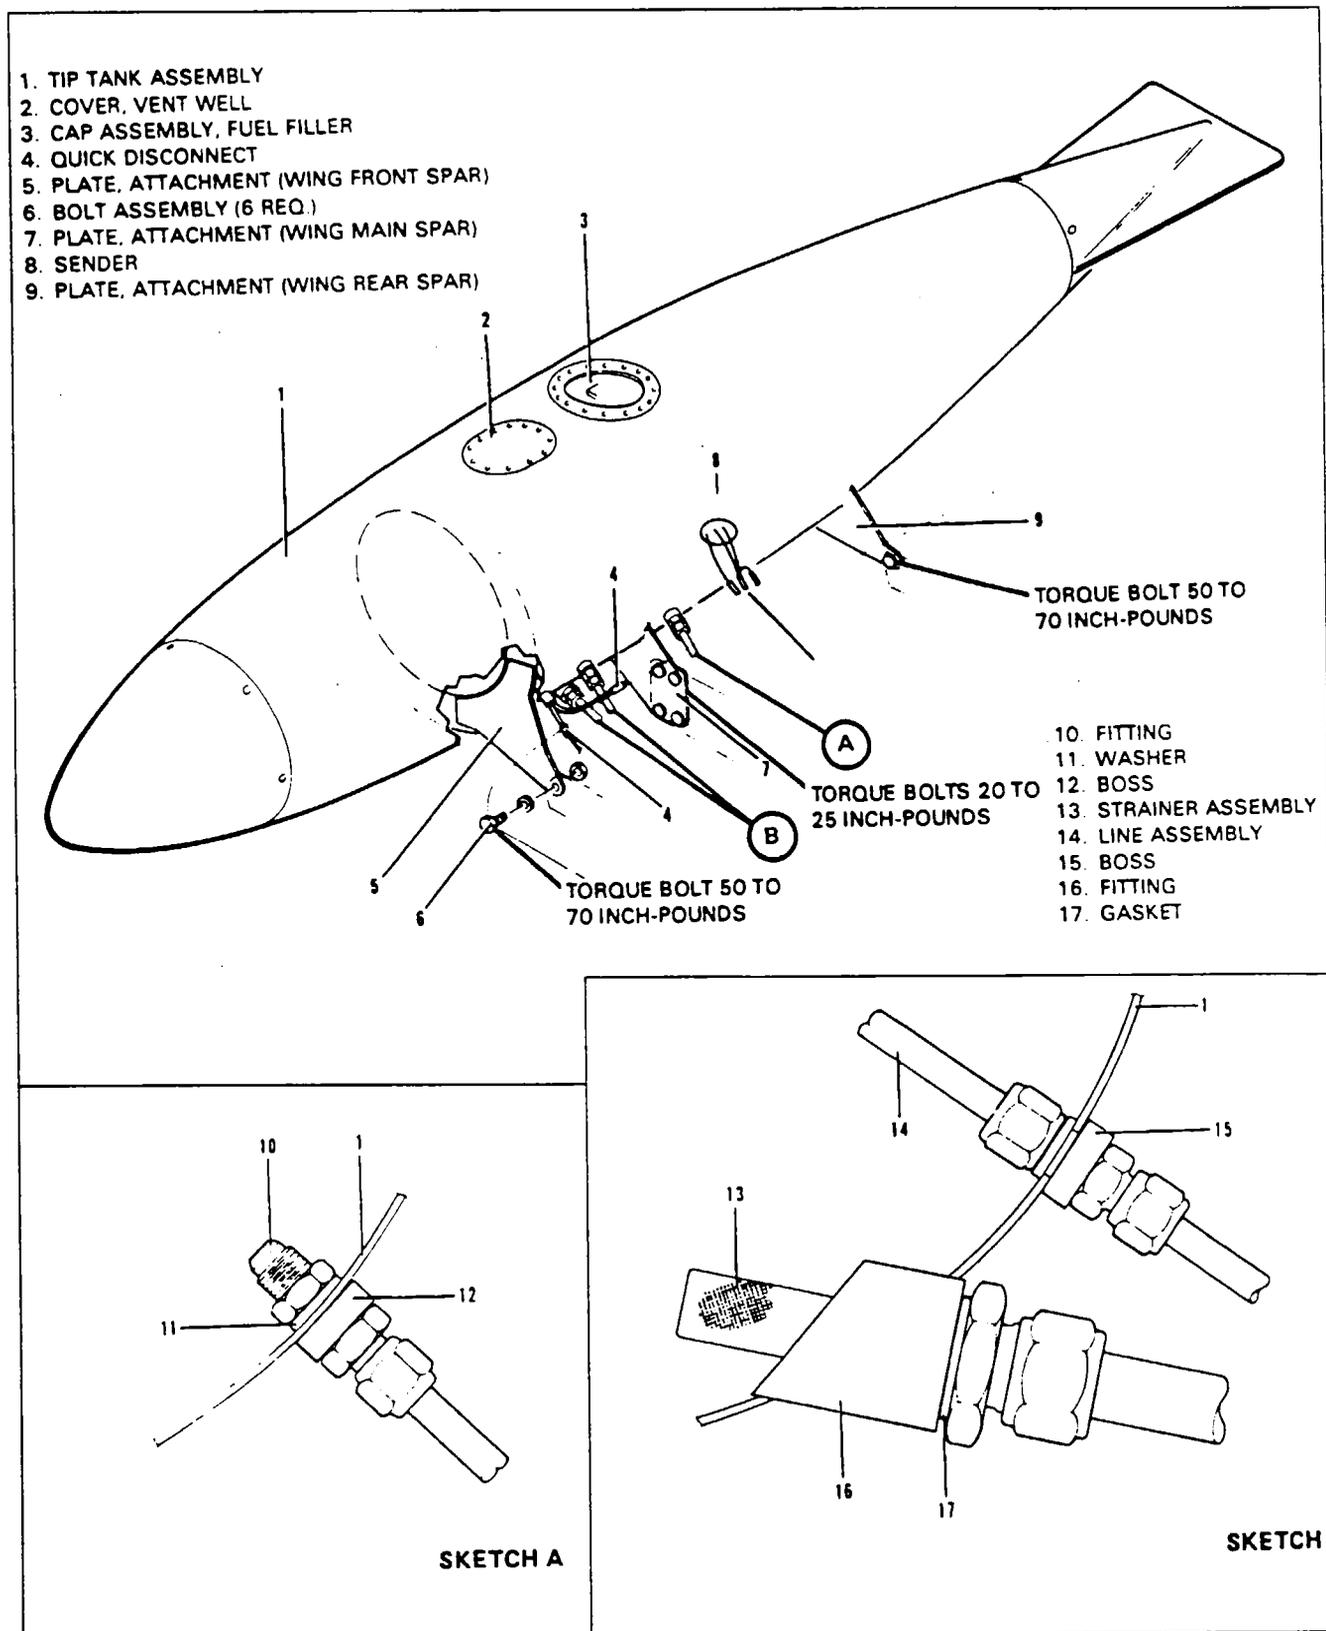

Figure 28-4. Tip Tank Installation
**REMOVAL OF WING TIP TANKS.** (Refer to Figure 28-4.)
**INSTALLATION OF WING TIP TANKS.** (Refer to Figure 28-4.)
1. Connect the tank to the wing by installing the six bolts. Refer to Figure 28-4 for bolt torque values.